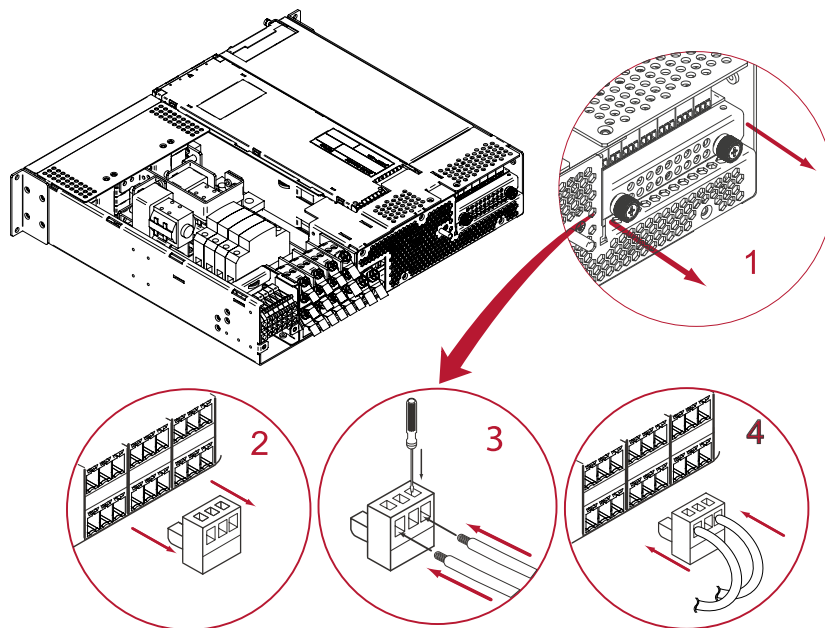

Figure 4-17 Alarm Connection
1. Pull out the alarm interface board support by unscrewing two retaining screws on the rear of the power system (Figure 4-17, #1).
2. Remove the green plug from each connector (Figure 4-17, #2)
5. Insert the wire into the openings of green plug and tighten screw to clamp wire (Figure 4-17, #3).
6. Re-insert the the green plug with the alarm cable into the alarm interface board (Figure 4-17, #4).